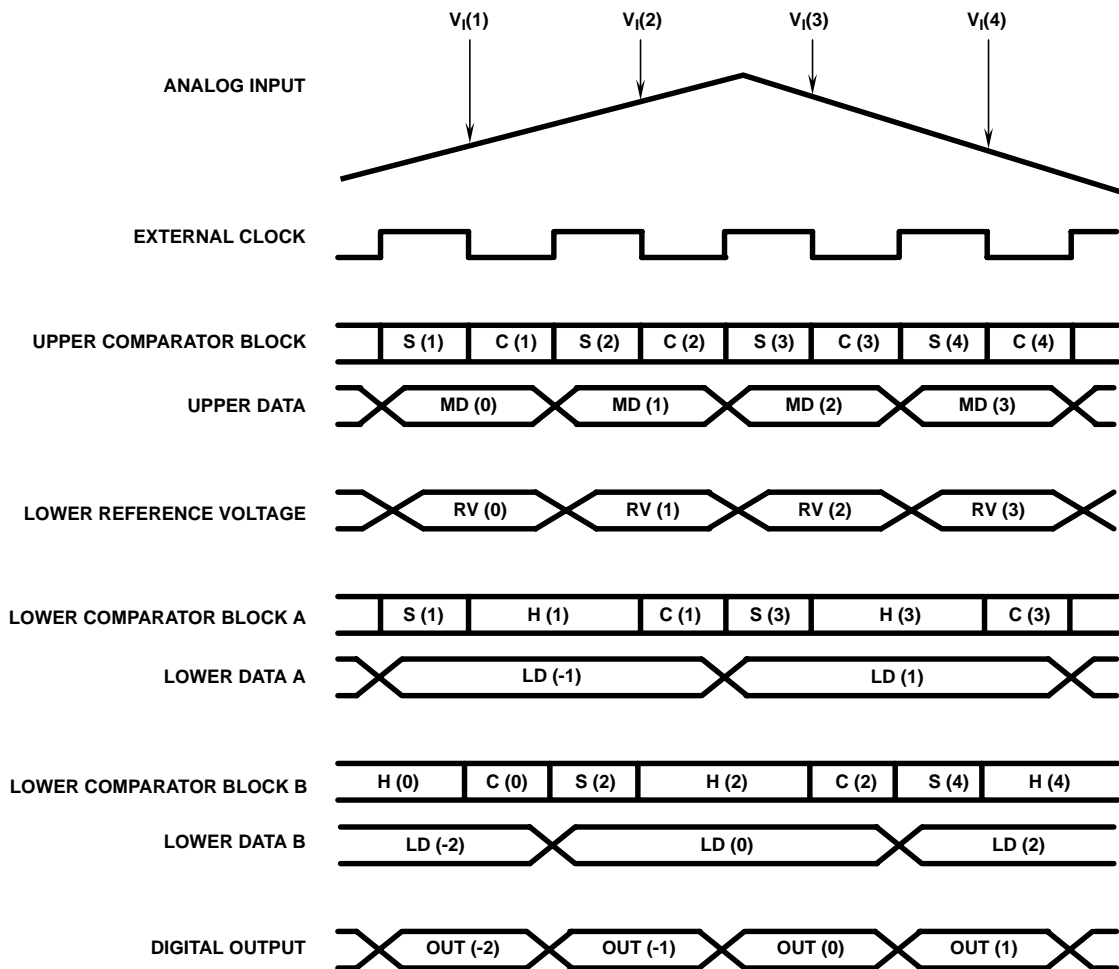

FIGURE 3. HI1176/HI1179 TIMING
The operation of the part is depicted in the timing diagram of Figure 3. A reference voltage between V_{RT} and V_{RB} is constantly applied to the upper 4-bit comparator group. The analog input is sampled, $V_I(1)$, with the falling edge of the first clock by the upper comparator group. The lower block A also samples the analog input, $V_I(1)$, on the same edge. The upper comparator block finalizes comparison data MD(1) with the rising edge of the first clock. Simultaneously the reference supply generates a reference voltage RV(1) that corresponds to the upper results and applies it to the lower comparator block A. The lower comparator block finalizes comparison data LD(1) with the rising edge of the second clock. MD(1) and LD(1) are combined and output as OUT(1) with the rising edge of the third clock. There is a 2.5 cycle clock delay from the analog input sampling point to the corresponding digital output data. The lower comparator blocks A and B alternate generating the lower data in order to increase the overall ADC sampling rate.